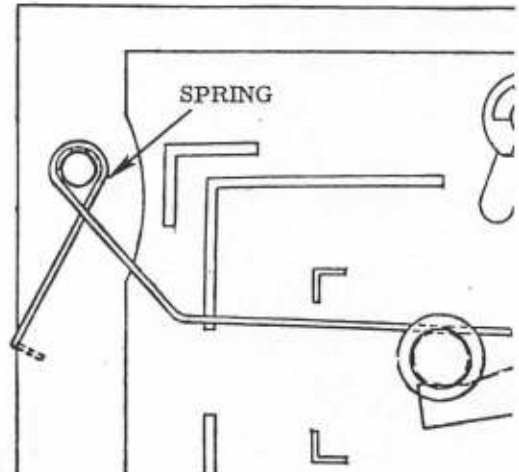

Figure 1-7B. MASK SPRING POSITION
d. Place spring on stud located at upper left side of bracket assembly. (Position as shown in Figure 1-7B.) Secure in position with retaining ring (6).